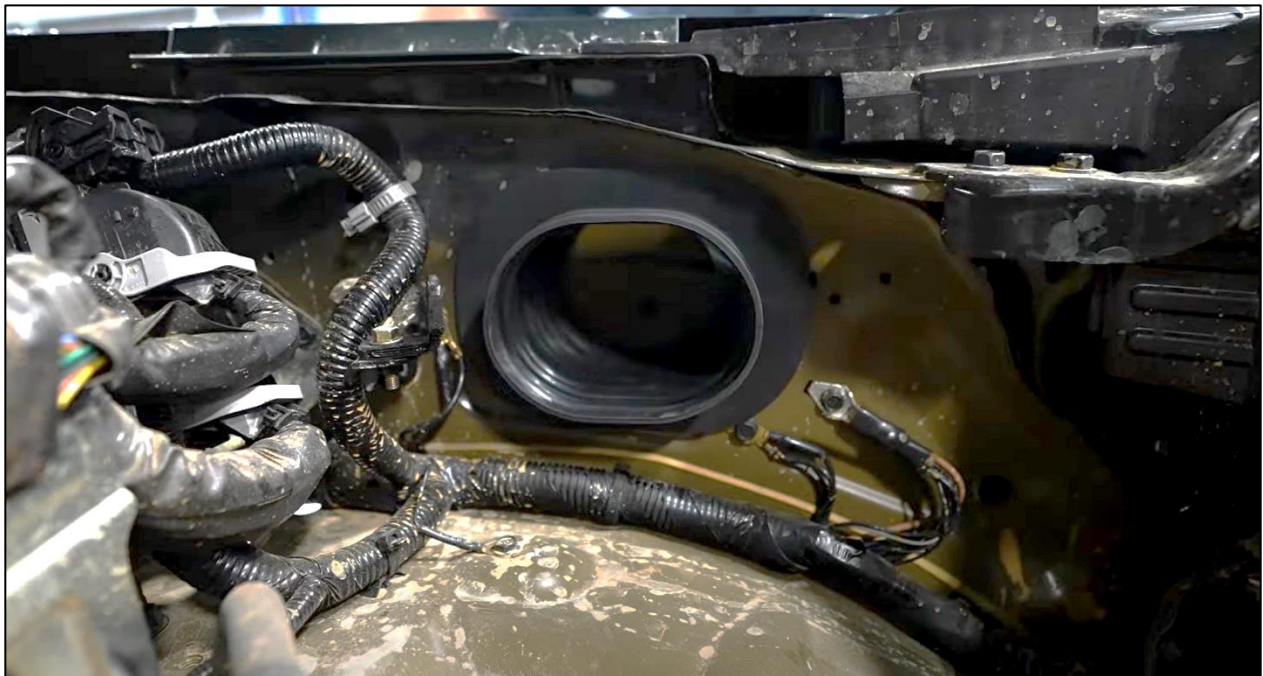

Figure 18
28. Locate the Z1 Airbox Fender Grommet. Install it into the Fender well as shown below. The Larger opening of the Fender Grommet will face outwards towards the Airbox. *Figure 18.*